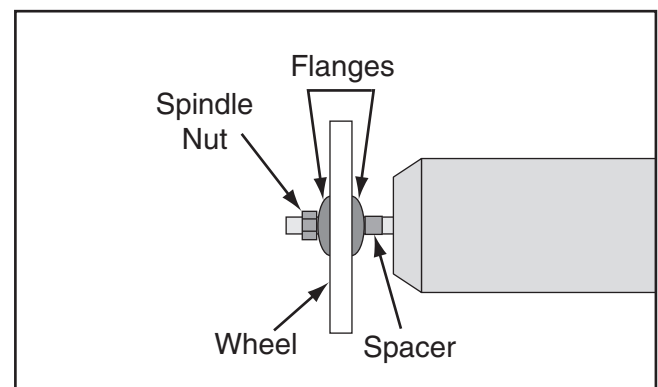

Figure 9. Buffing wheel order of installation.
1. Place (1) spacer and wheel flange on each spindle shaft on each side of buffer (see **Figure 9**).
2. Install buffing wheels on each spindle shaft (see **Figure 9**).
3. Place (1) wheel flange on each shaft against wheel, and secure each wheel with (1) spindle nut (see **Figure 9**).